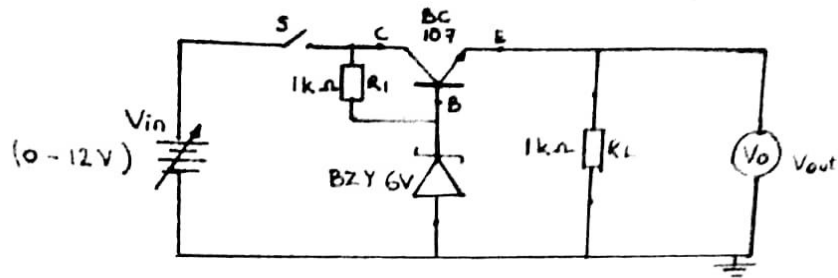

Fig. 2
- Connect the circuit as shown in Figure 2.